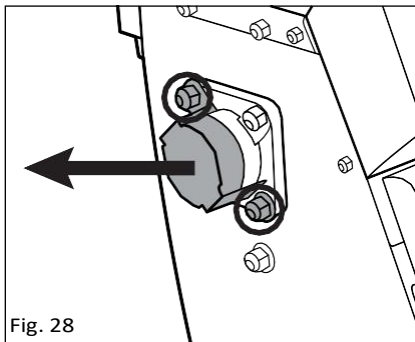

Fig. 28
3. To allow access to the blade shaft remove the two nuts from the blade shaft cover (14) (fig. 28).